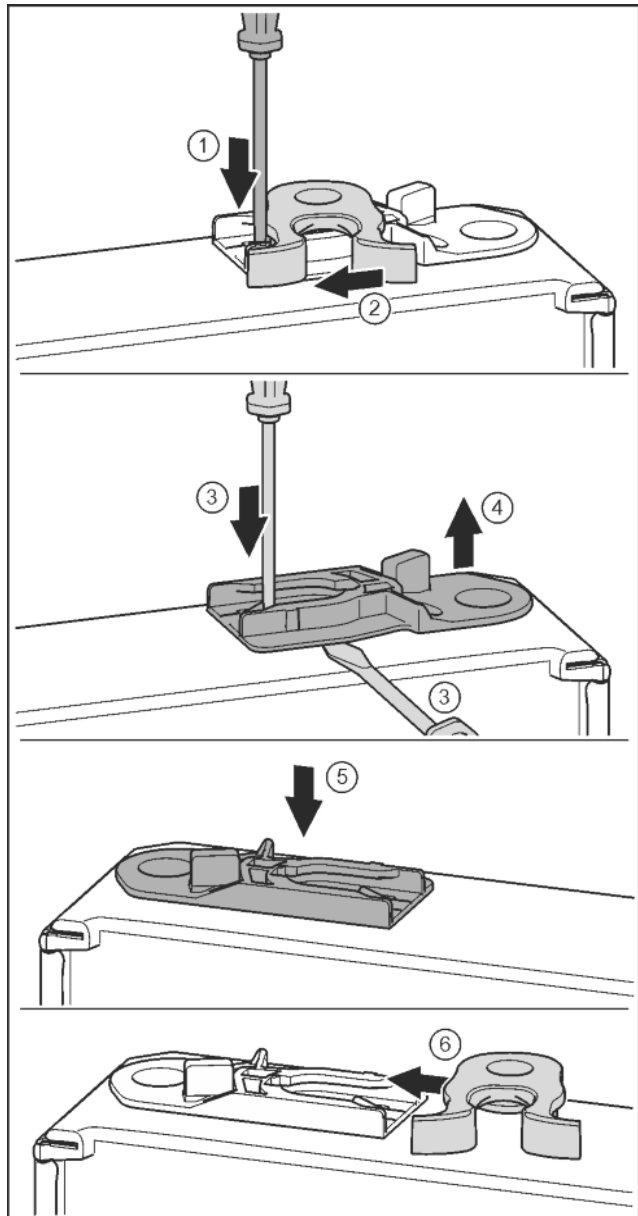

Fig. 19
- ▶ Push the tab downwards with a slotted screwdriver. Fig. 19 (1)
- ▶ Pull the door latch out of the guide. Fig. 19 (2)
- ▶ Pull out the guide bush: Press the tab with a slotted screwdriver and, at the same time, insert the slotted screwdriver under the guide bush. Fig. 19 (3, 4)
- ▶ Slide the guide bush included in the scope of supply to the other side of the housing. Fig. 19 (5)
- ▶ Push the door latch into the guide. Fig. 19 (6)